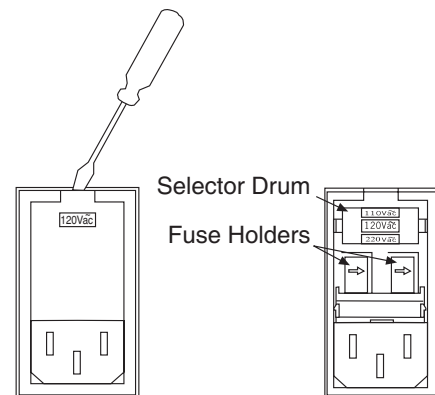

Figure 62. Power Input Module
- As shown in Figure 62, place the flat side of a flat bladed screwdriver parallel to the back of the Controller and behind the small tab at the top of the power module, and twist the screwdriver slowly but firmly to pop the module open.